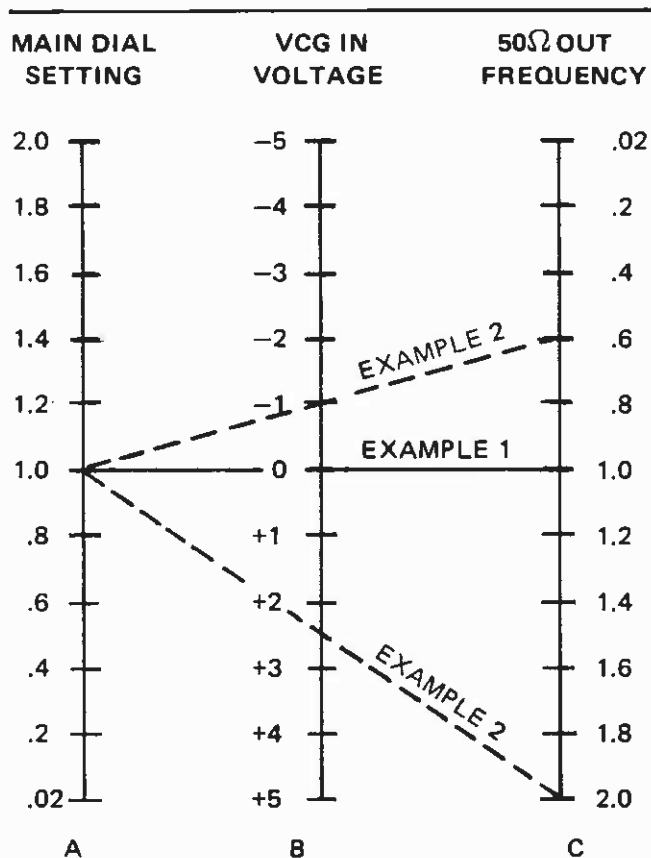

Figure 2-2 - VCG Voltage-to-Frequency Nomograph
9. The nomograph in Figure 2-2 shows the characteristics of the VCG circuit. Column A gives the frequency dial setting; column B, the VCG input voltage; and column C, the approximate resultant dial frequency. Column C must be multiplied by the frequency range multiplier for the actual output frequency.